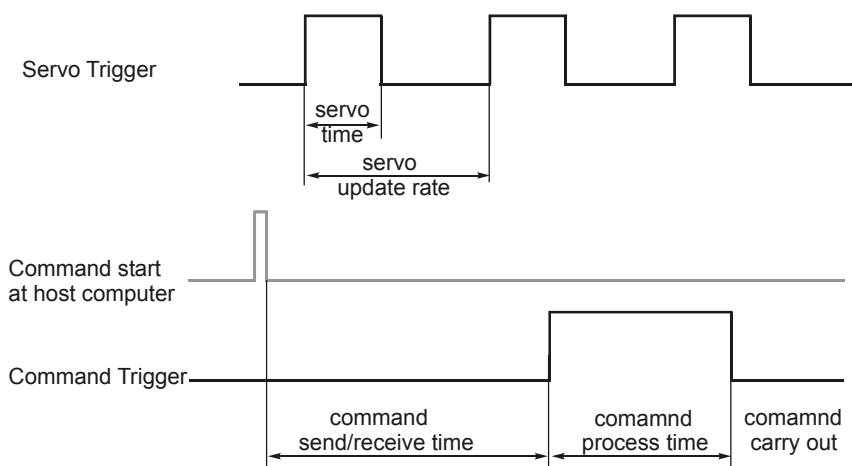

Fig. 13: Servo and command trigger shapes. Other trigger output shapes are programmable.
- Sensor/Servo cycle trigger (OUT0), synchronized with the sample period of the sensor data servo-loop processing, shows the internal servo-loop processing state: HIGH for servo calculating and LOW: servo calculating finished (Fig. 13).
- Command cycle trigger (OUT1), is high from "command received" to "command processed". Typically the commands send/receive time (trigger low) is 0.5 ms for GPIB and 1.8 ms for RS-232 at 115200 baud (Fig. 13).